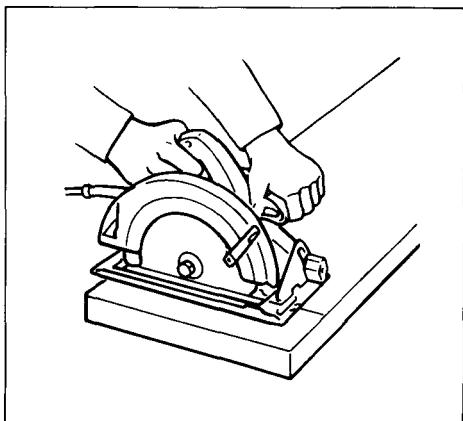
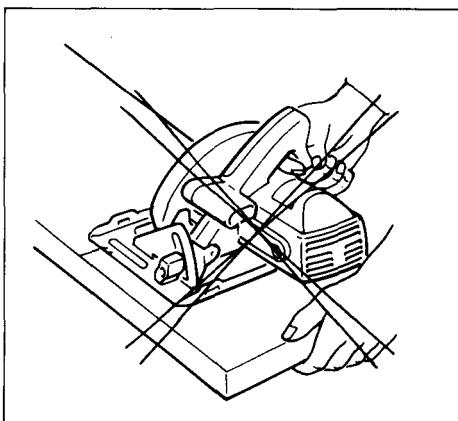

Fig. 5
Fig. 6
**12. Place the wider portion of the saw base on that part of the workpiece which is solidly supported, not on the section that will fall off when the cut is made. As examples, Fig. 5 illustrates the **RIGHT** way to cut off the end of a board, and Fig. 6 the **WRONG** way. If the workpiece is short or small, clamp it down. DON'T TRY TO HOLD SHORT PECES BY HAND!**